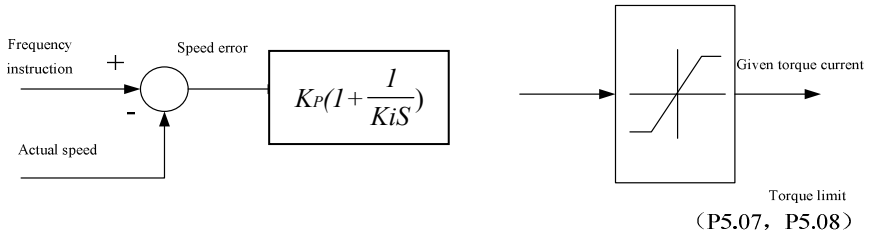

Fig. 6-14 Simplified block diagram of ASR
- a. Speed regulator (ASR)'s structure is shown in Fig.6-14, where K_p is proportional gain P, and K_i is integration time I.